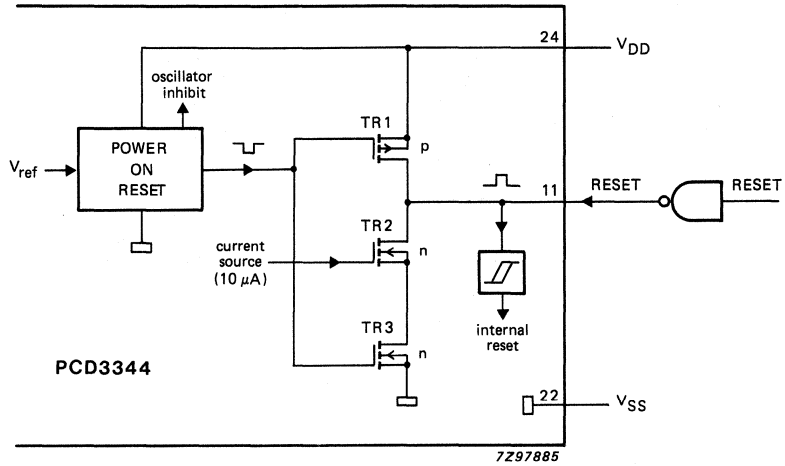
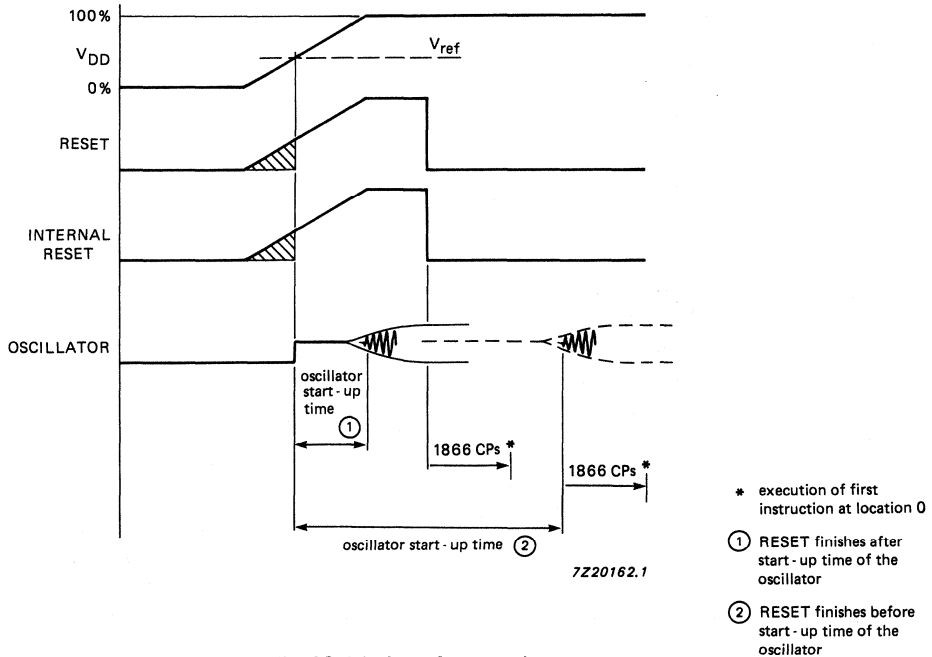

Fig. 22 External power-on reset configuration.
Fig. 23 Timing of external power-on reset.
3. Fig. 22 shows an external reset applied during power-on. The external reset signal must remain HIGH until V_{DD} has reached its minimum operating value corresponding to the selected oscillator frequency. When a reset is completed (RESET goes LOW) before the oscillator has started up, program execution begins after the oscillator start-up time plus 1866 clock periods (see Fig. 23). If the oscillator starts up prior to the completion of RESET then program execution begins 1866 clock periods after RESET goes LOW.